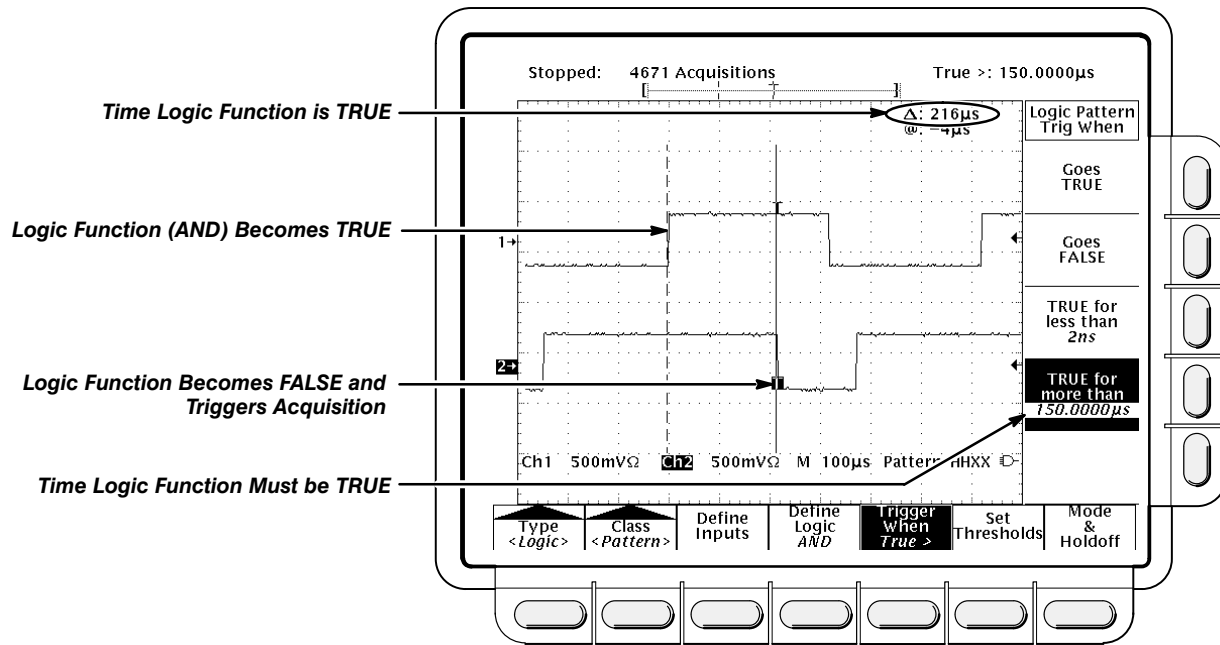

Figure 3-43: Logic Trigger Menu — Time Qualified TRUE
Note the position of the trigger indicator in Figure 3-43. Triggering occurs at the point the logic function you specify is determined to be true within the time you specify. The digitizing oscilloscope determines the trigger point in the following manner:
In Figure 3-43, the delay between the vertical bar cursors is the time the logic function is TRUE. Since this time is more (216  $\mu$ s) than that set in the **True for more than** menu item (150  $\mu$ s), the oscilloscope issues the trigger at that point, not at the point at which it has been true for 216  $\mu$ s.